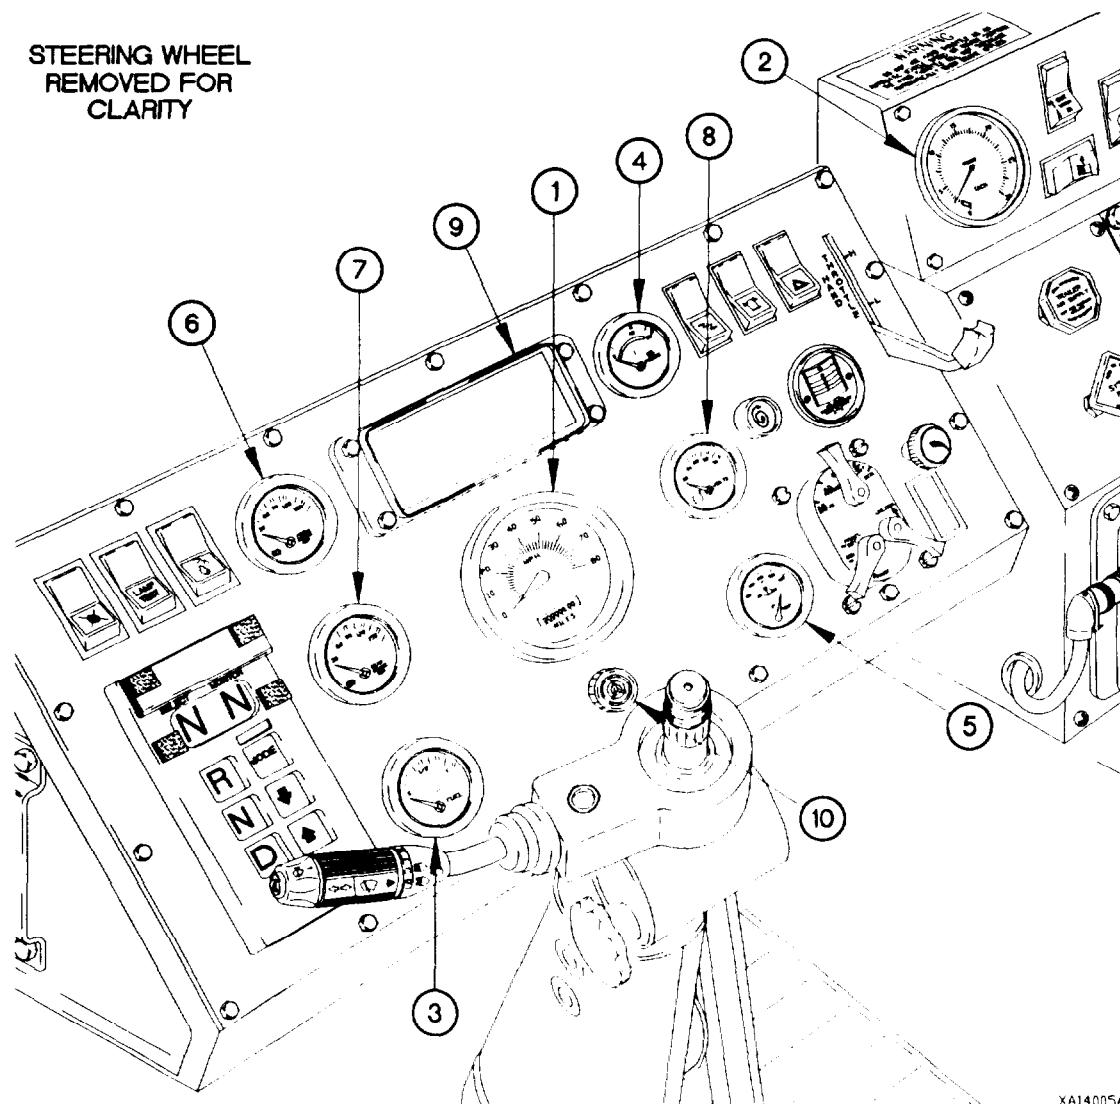

Figure 1-13. Instrument Panel
f. Instruments. The Instrument Panel includes all gages that provide the operator with information about vehicle condition and operating status. The speedometer (1, Figure 1-13) receives electrical input from the WTEC II Vehicle Interface Module (VIM) on vehicles equipped with WTEC II transmission controls. The speedometer receives electrical input from the WTEC III transmission ECU on vehicles equipped with WTEC III transmission controls. The WTEC II VIM and the WTEC III transmission ECU are both located behind the kick panel. Tachometer (2) input is provided by the engine speed sensor located on the engine flywheel housing. The fuel gage (3), oil pressure gage (4), water temperature gage (5), front brake air pressure gage (6), rear brake air pressure gage (7), and volts gage (8) receive electrical signals from sending units. The sending units respond to changes in fluid level, pressure, temperature, and DC current and send this information to the gages.
g. Indicator Lights and Alarms. The lighted indicator display (9) and audible alarm (10), located on the instrument panel assembly, are activated by switches located in various systems. These include, but are not limited to; master stop, low engine oil pressure, low air pressure, high water temperature, engine fan off, and high transmission oil temperature. When any of these switches are activated, they energize the proper indicator and/or alarm, alerting the operator of a potential problem or condition which needs to be monitored.